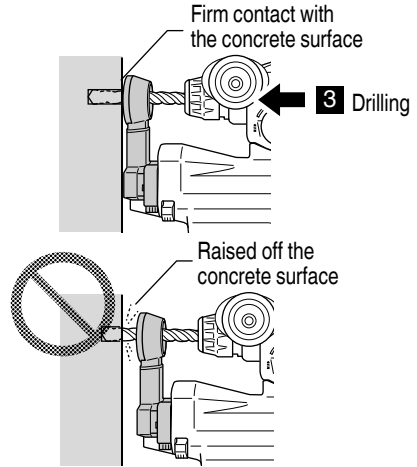

Fig. 12
- (3) With the end of the nozzle still in firm contact with the surface of the concrete, proceed with drilling. (Fig. 12)